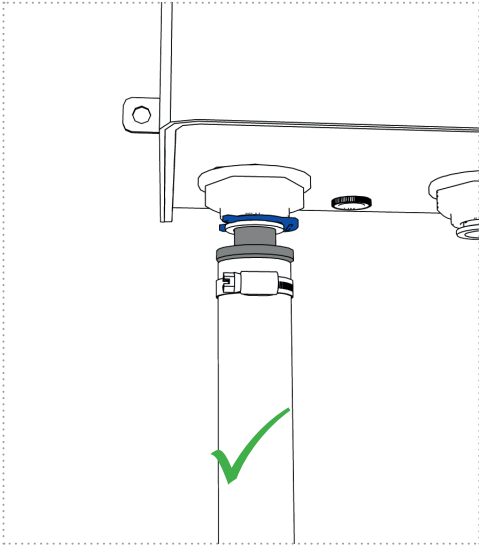

Figure 12a
6. Check all connections for correct seating and tension-free connection to the UV unit (Figures 12a and 12b)